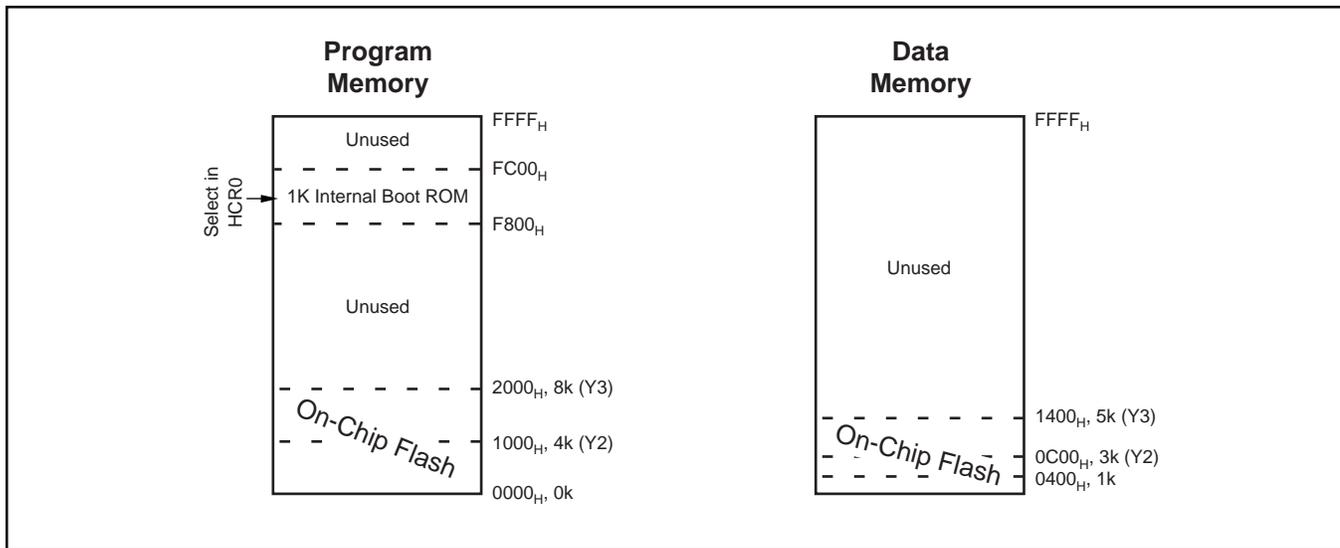

FIGURE 17. Memory Map.
The MSC1200 allows the user to partition the Flash Memory between Program Memory and Data Memory. For instance, the MSC1200Y3 contains 8kB of Flash Memory on-chip. Through the HW configuration registers, the user can define the partition between Program Memory (PM) and Data Memory (DM), as shown in Tables III and IV and Figure 17. The MSC1200 family offers two memory configurations.